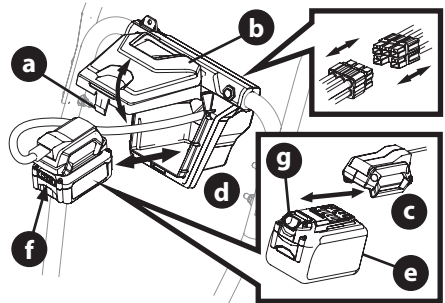

Figure 61
1. Installing the battery pack (Figure 61):
NOTE: If necessary the battery adapter can be disconnected from the battery start wiring harness (Insert, Figure 61).
2. Removing the battery pack (Figure 61):